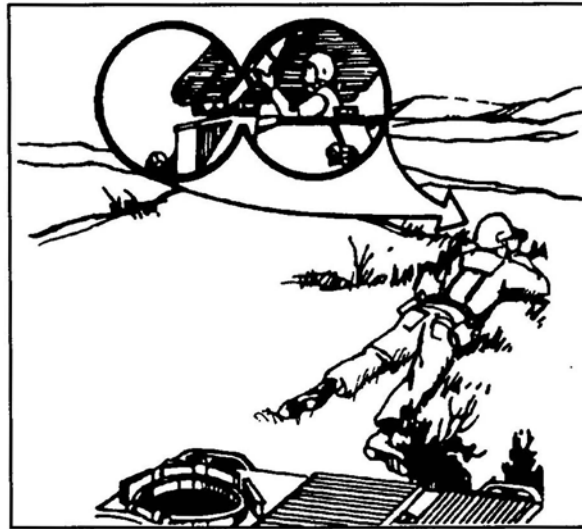

Figure 5. Plan routes.
- e. To cross an open area (as in emerging from a woodline, crossing a ridge, and so forth), check it first for possible enemy positions, then cross it quickly (Figure 5). If enemy locations are identified or suspected, suppress or smoke them before crossing. Cross the open area as rapidly as possible from one covered position to the next.